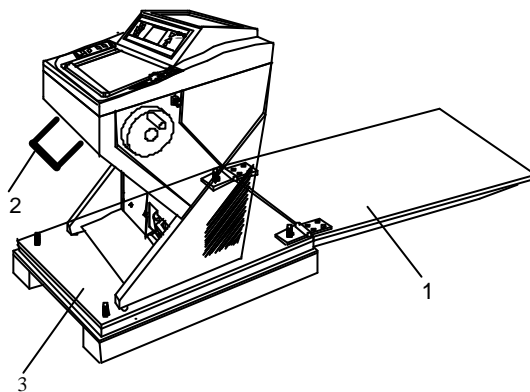

Fig. 3a
The upper wooden cover now serves as an incline (fig. 3a.1) on which the cryostat can be moved from the pallet to the floor by using the handle (fig. 3a.2)
- ??The hinges of the upper wooden cover (fig. 3.1) are inserted into the screws of the bottom plate (fig. 3a.3). The correct side for this is marked with arrows.
- ??Turn the setting feet completely upwards via this tool so that the cryostat stands with its rollers on the bottom plate (fig. 3a.3).
- ??Via the handle (fig. 3a.2) roll the cryostat from the bottom plate (fig. 3a.3) over the wooden cover (fig. 3a.1). In doing so, the rear side of the instrument must show to the incline (fig. 3a.1).